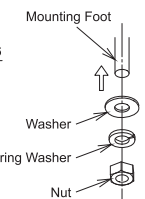

Figure 3: Nut and Washer Assembly
- Insert the mounting feet of the product into the mounting holes and refer to Figure 3 for the assembly of the nuts and washers, then tighten the nuts with the recommended torque. (Recommended tightening torque: 0.7±0.1N·m)